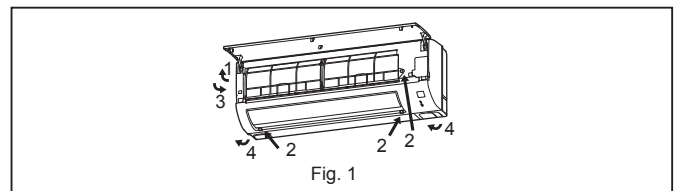

Fig. 1
- 1) Cut the copper pipe as straight as possible with a pipe cutter. (Fig. 1, 2)
#### Removal procedure (Fig. 1)